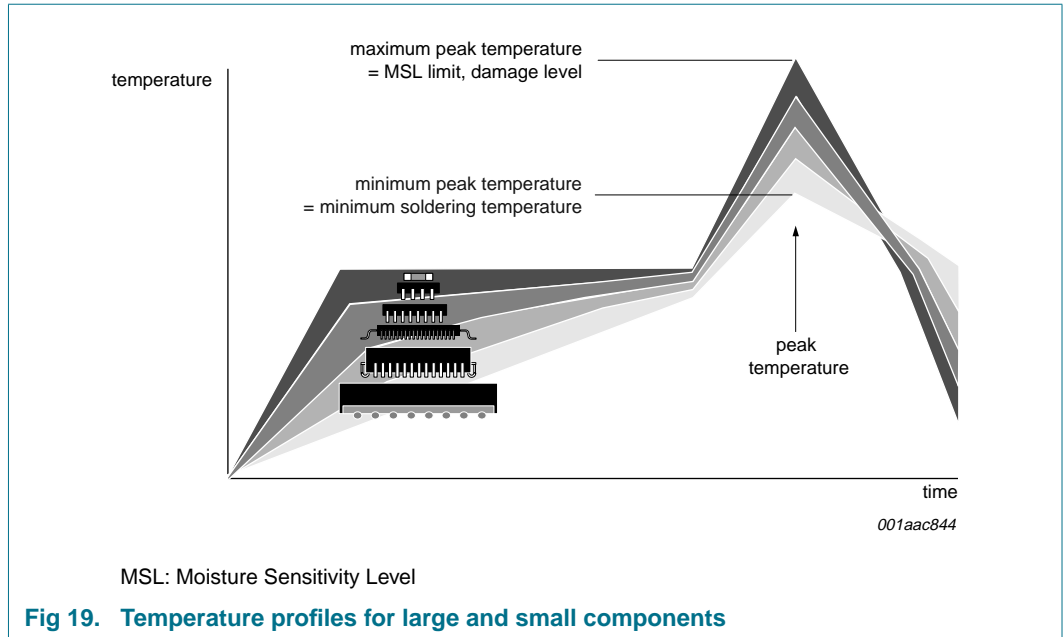

Fig 19. Temperature profiles for large and small components
- Lead-free versus SnPb soldering; note that a lead-free reflow process usually leads to higher minimum peak temperatures (see Figure 19) than a SnPb process, thus reducing the process window
Studies have shown that small packages reach higher temperatures during reflow soldering, see Figure 19.